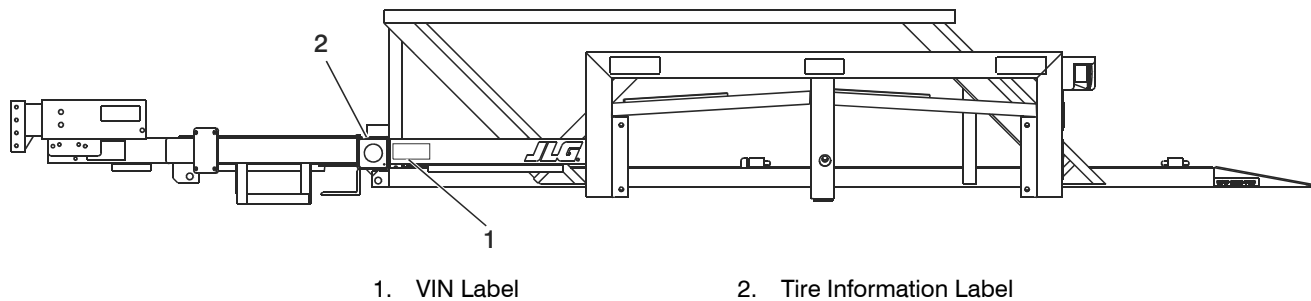

Figure 1-1. VIN Label & Tire Information Label
**NOTE:** Refer to Figure 1-1. for Tire Information Label and VIN Label location.